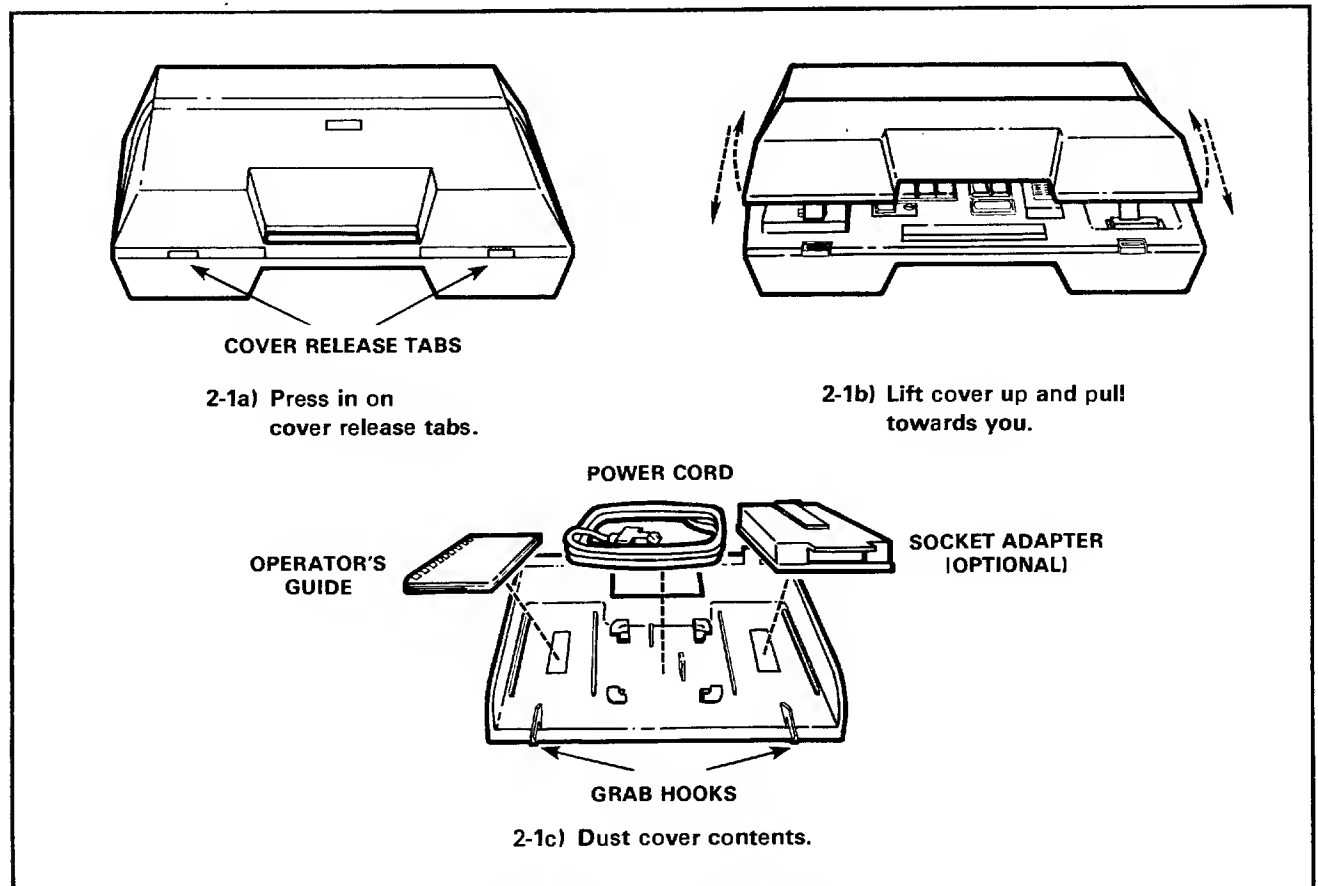

Figure 2-1. Dust Cover Removal
To gain access to your 22B, and its component pieces, you must first remove the unit's protective dust cover. To do this, refer to figure 2-1 and follow these instructions:
4. Lay the dust cover upside down on a flat surface. As shown in figure 2-1, the dust cover should contain an Operator Guide (12-990-0004), Power Cord (416-0010 or 416-1577) and socket adapter (optional).